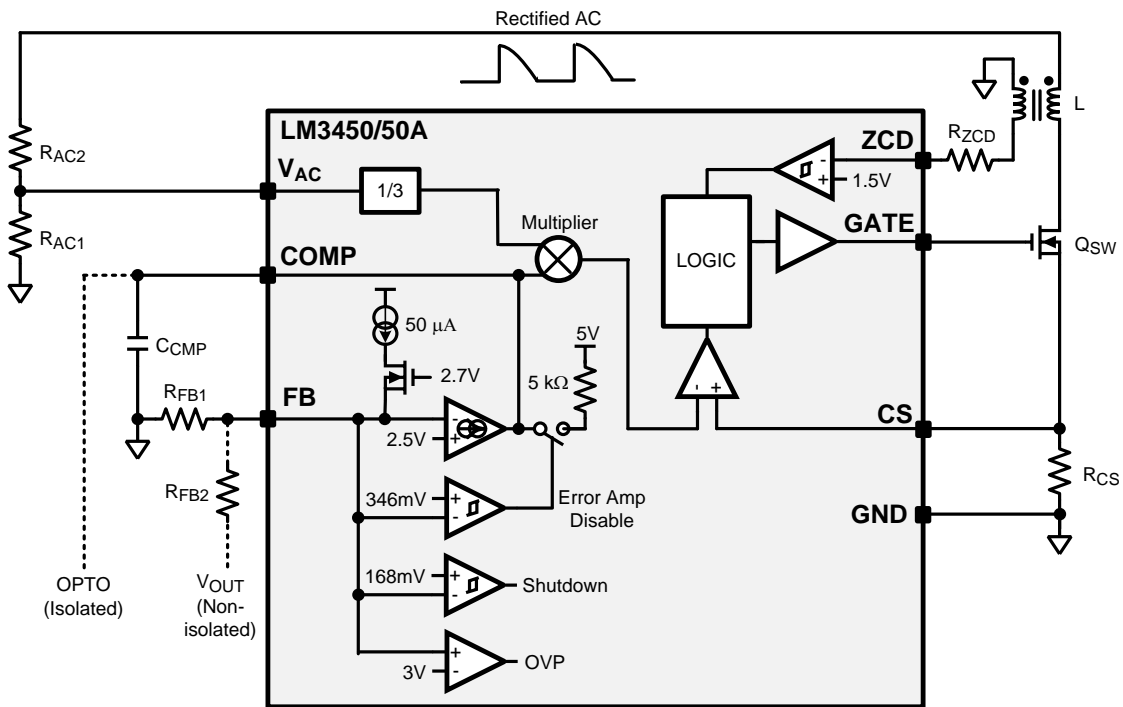

Figure 21. PFC Control Circuit
The LM3450/50A uses CRM control to regulate the output voltage and provide power factor correction. In a non-isolated boost topology, an external voltage divider ( $R_{FB1}$ ,  $R_{FB2}$ ) is used to sense the output voltage, as shown in Figure 21. The divider is connected to the inverting input (FB) of the internal error amplifier. The LM3450/50A regulates the feedback voltage ( $V_{FB}$ ) to 2.5V in a closed loop fashion.
For an isolated flyback topology, where the error amplifier is on the secondary, the LM3450/50A internal error amplifier can be bypassed using a single 5.11k $\Omega$  resistor ( $R_{FB1}$ ) from FB to GND. This engages an internal 5k $\Omega$  pull-up resistor at COMP. COMP can then be connected directly to the optical isolation as shown in Figure 21.
ZCD is implemented with a 100kΩ resistor from the ZCD pin to a coupled winding on the transformer or inductor as shown in Figure 21. This winding is also used to bootstrap  $V_{CC}$  after start-up. When  $Q_{SW}$  turns off, the voltage at the ZCD pin ( $V_{ZCD}$ ) increases as energy is transferred through the auxiliary winding. The circuit arms when  $V_{ZCD}$  exceeds 1.5V. Then, when the energy is fully transferred,  $V_{ZCD}$  decreases towards zero. When  $V_{ZCD}$  falls below 1.3V, the transformer is assumed to be demagnetized, the circuit disarms, and  $Q_{SW}$  is turned back on as shown in Figure 22. The ZCD pin voltage will remain low until  $Q_{SW}$  is turned off via peak detection and the cycle repeats.
The LM3450/50A internal error amplifier is used for non-isolated designs (boost) where the output voltage can be directly sensed, via a resistor divider, at the FB pin. The FB pin is the inverting input of the trans-conductance amplifier which is regulated to 2.5V. The COMP pin is the output of the amplifier and external compensation is placed from COMP to GND in the form of a single capacitor ( $C_{COMP}$ ) as shown in Figure 21, a series resistor and capacitor, or both. The output of the amplifier sources or sinks current as necessary to force the inputs of the amplifier to be equal. The compensation method depends upon the transient performance desired and requires a loop gain analysis. This analysis can be somewhat complex and cumbersome. A detailed analysis can be found Application Notes AN-2098 (literature number SNVA463) and/or AN-2150 (literature number SNVA485).